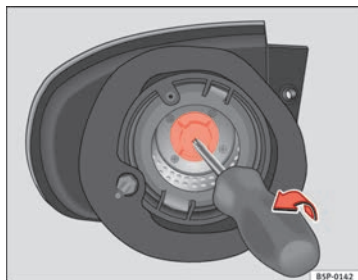

Fig. 199 Turn signal light.
- Pull out the turn signal bulb holder using a screw driver in the direction of the arrow ⇒ Fig. 199.